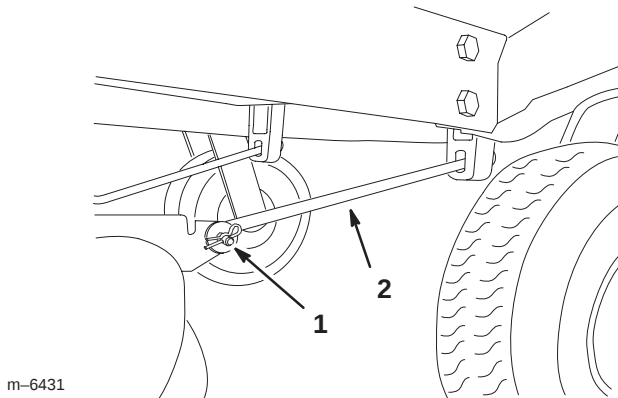

Figure 2
4. Remove the hairpin cotter and clevis pin from the front support rod on each side of the mower (Fig. 2).